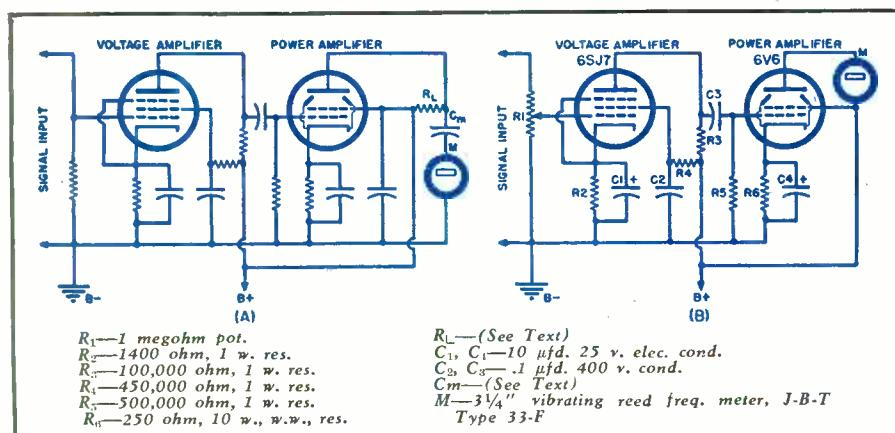

Fig. 3. Front panel view of the completed instrument confirms author's original intentions of a compact and easily constructed versatile test instrument.
Fig. 3. (A) Practical preselector and padded oscillator tuning circuit arrangement employed in many single-band receivers. (B) Typical mica compression-type adjustable padder capacitor. This particular unit has a capacity range of 3-35  $\mu\text{fd}$ .